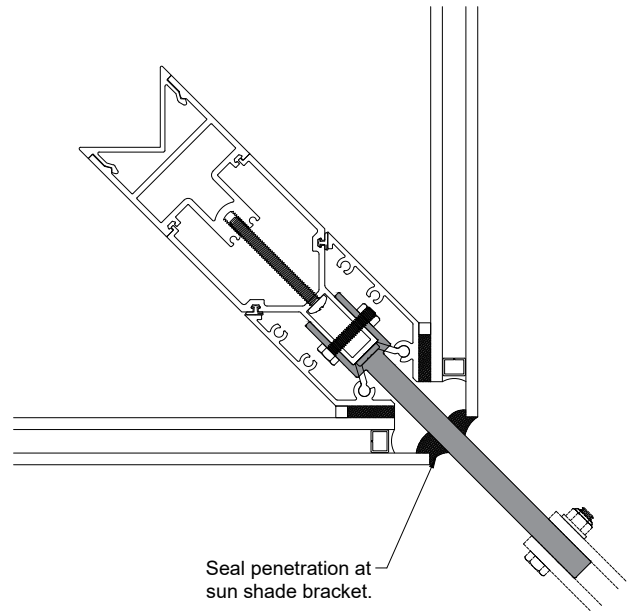

FIG. 11.2
- 5) Once all Cassette framing and closures have been installed, install perimeter glass seals as instructed, sealing around sun shade bracket penetrations. Fig. 11.2.